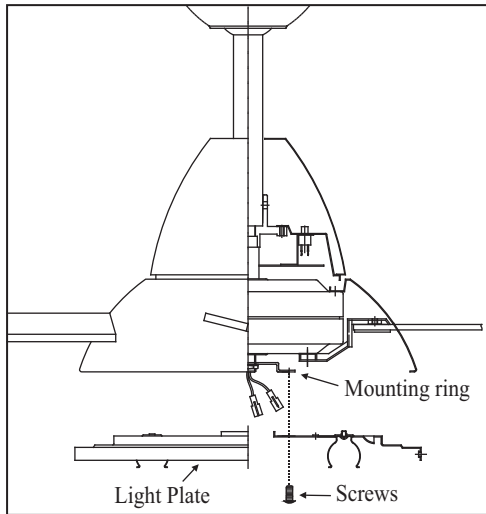

Figure 15
2. Place the key holes on the light plate over the 2 screws previously loosened from the mounting ring, turn light plate until it locks in place at the narrow section of the key holes. Secure by tightening the 2 screws previously loosened and the one previously removed. (Fig. 15)